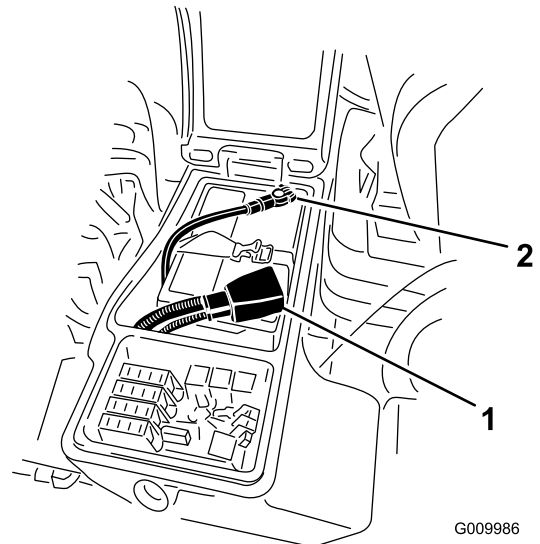

Figure 49
3. Remove the negative cable (black) from the negative (-) terminal and the positive cable (red) from the positive (+) terminal of the battery (Figure 49).
6. Install the positive cable (red) to the positive (+) terminal and the negative cable (black) to the negative (-) terminal of the battery (Figure 49).